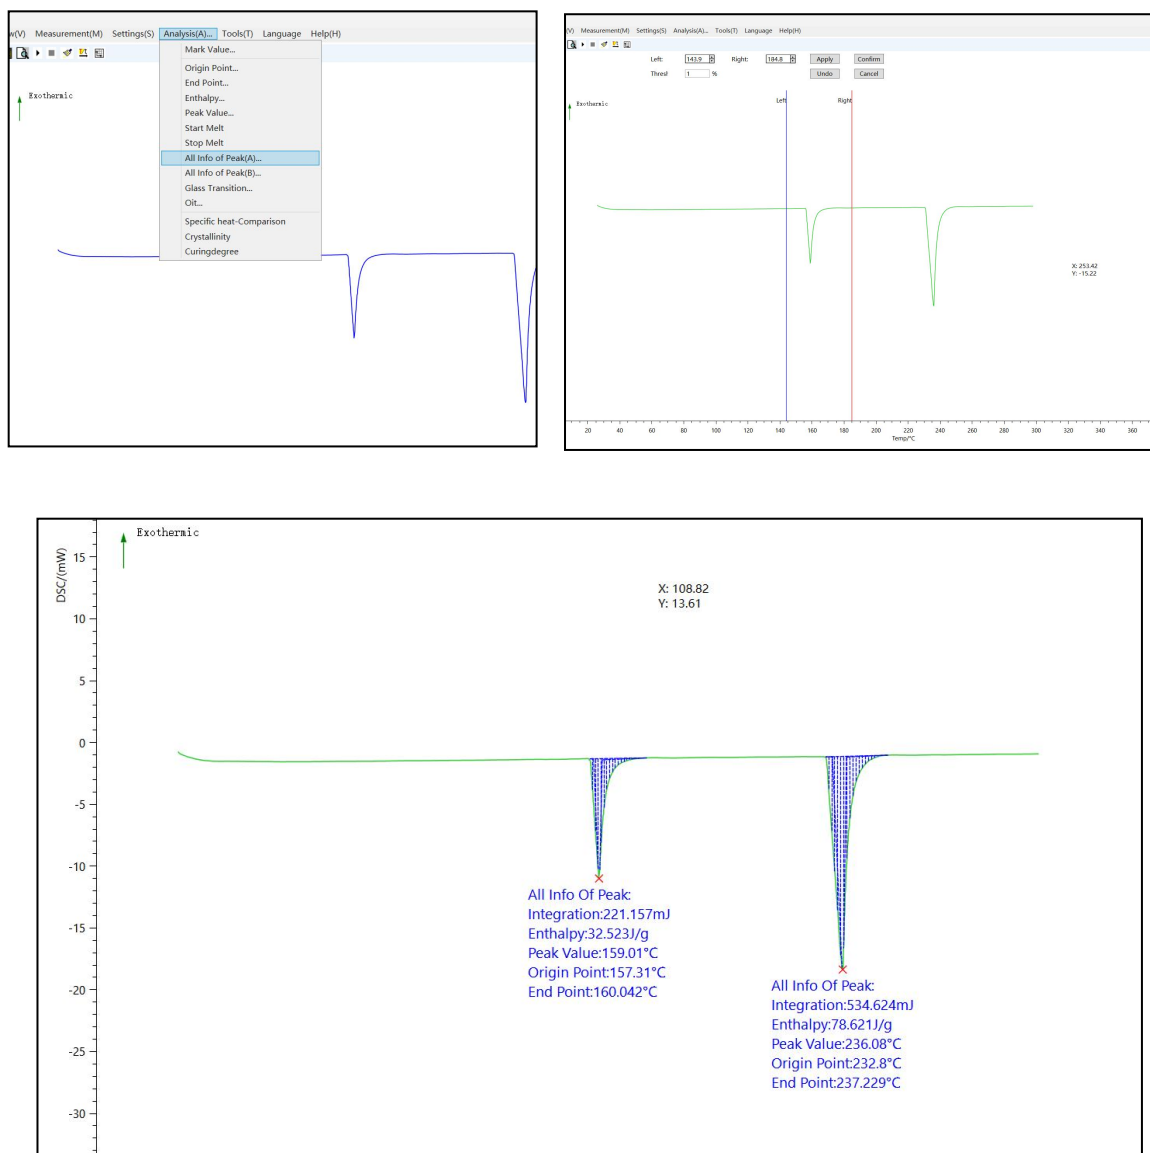

Figure 7-3 DSC profile of tin particles
6. Figure 7-3 shows the DSC curve of pure tin. The theoretical melting point of pure tin is 231.9°C , while the instrument-measured melting point $T_{\text{eo}} = 232.5^{\circ}\text{C}$, with the measured fusion enthalpy $H = 44.2272\text{J/g}$.